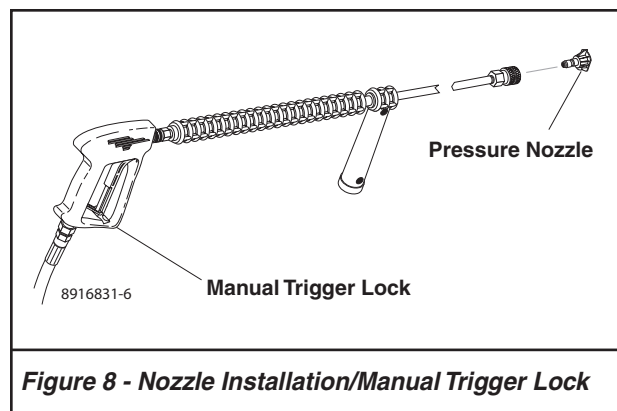

Figure 8 - Nozzle Installation/Manual Trigger Lock
6. Install the proper pressure nozzle on end of wand for your cleaning needs, refer to **Figure 8**.
IMPORTANT: The trigger gun provided with this pressure washer is equipped with a manual trigger lock to prevent accidental operation of the trigger gun, refer to **Figure 8**. The trigger lock should be used whenever the trigger gun is not in use.